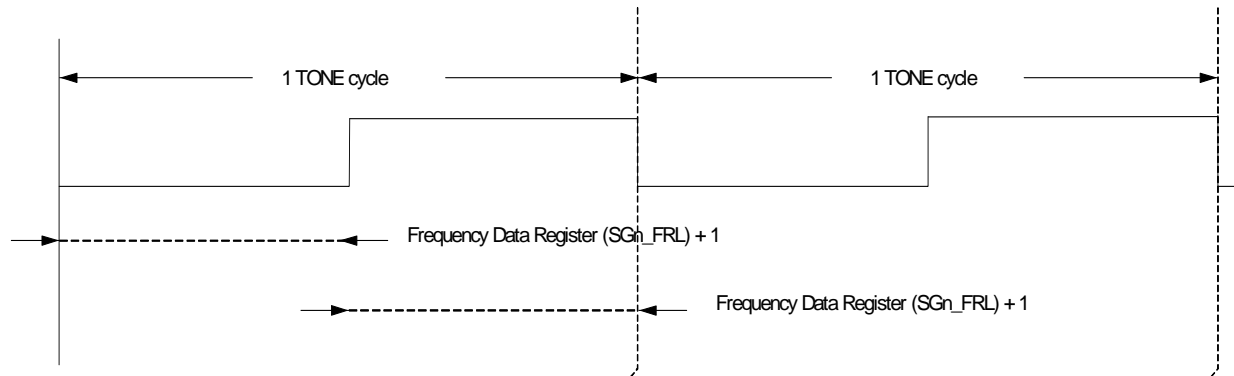

Figure 6-22: Tone pulse timing details
- The tone output (i.e. output of toggle flop) toggles after every (frequency data reload register value + 1) as shown in Figure 6-22: as follows.